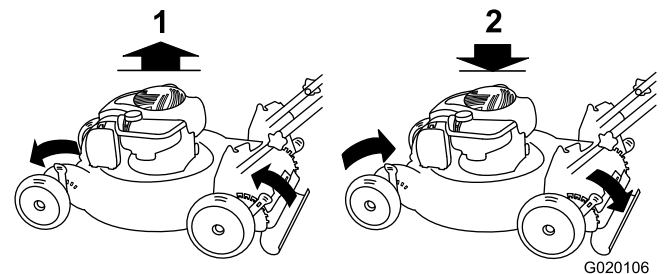

Figure 11
**Note:** To raise or lower the machine, move the cutting-height levers as shown in Figure 11.